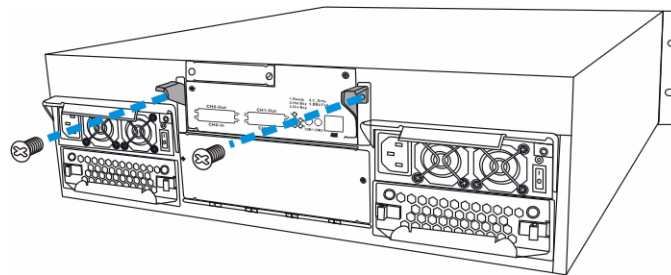

Fig. 6.1 Removing the Controller Module Screws
4. Remove the screws on the levers at the back of the controller module. (See *Figure 6.1*)